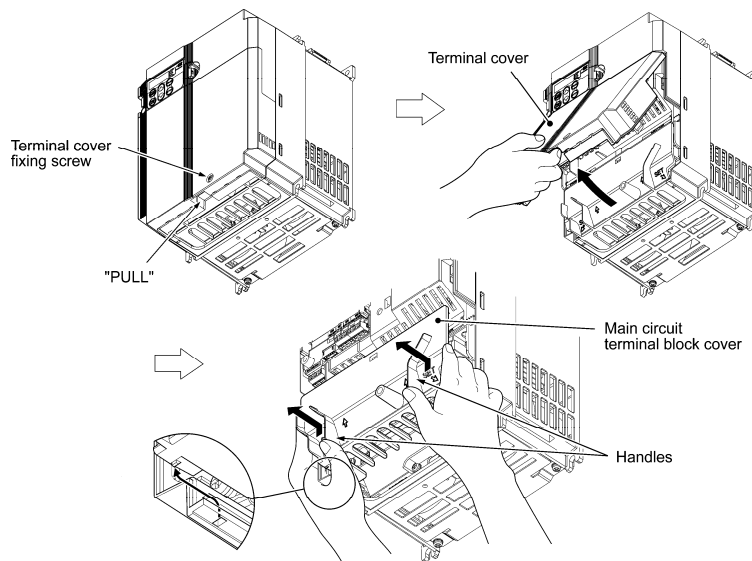

Figure 4.2 Removing the Covers (For Inverters with a Capacity of 5.5 and 7.5 kW)
(2) For inverters with a capacity of 5.5 and 7.5 kW
- ① To remove the terminal cover, first loosen the terminal cover fixing screw, put your finger in the dimple of the terminal cover (labelled "PULL"), and then pull it up towards you.
- ② To remove the main circuit terminal block cover, put your thumbs on the handles of the main circuit terminal block cover, and push it up while supporting it with your fingers (Refer to Figure 4.2).